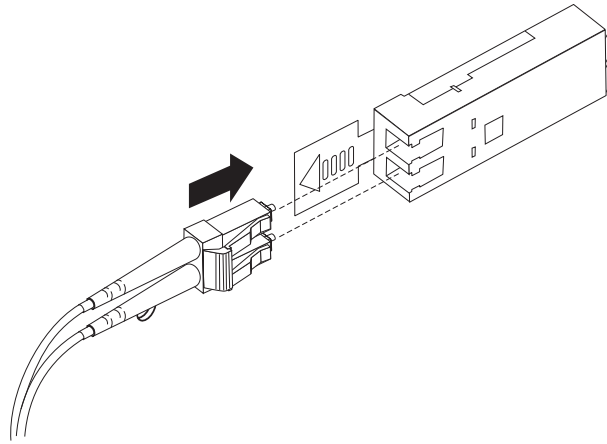

Figure 34. Inserting an LC-LC Fibre Channel cable into an SFP module
4. Carefully insert this end of the LC-LC cable into an SFP module that is installed in the DCS3700. The cable connector is keyed to ensure it is inserted into the SFP module correctly. Holding the connector, push in the cable until it clicks into place, as shown in Figure 34 on page 58.